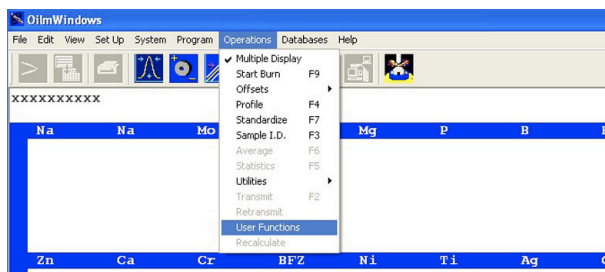

Figure 5-1, Operations/User Functions Menu
2. Reopen OilMWindows by selecting from the Start menu or the shortcut on the desktop. After the communications are up select Operations/User Functions menu, Figure 5-1.